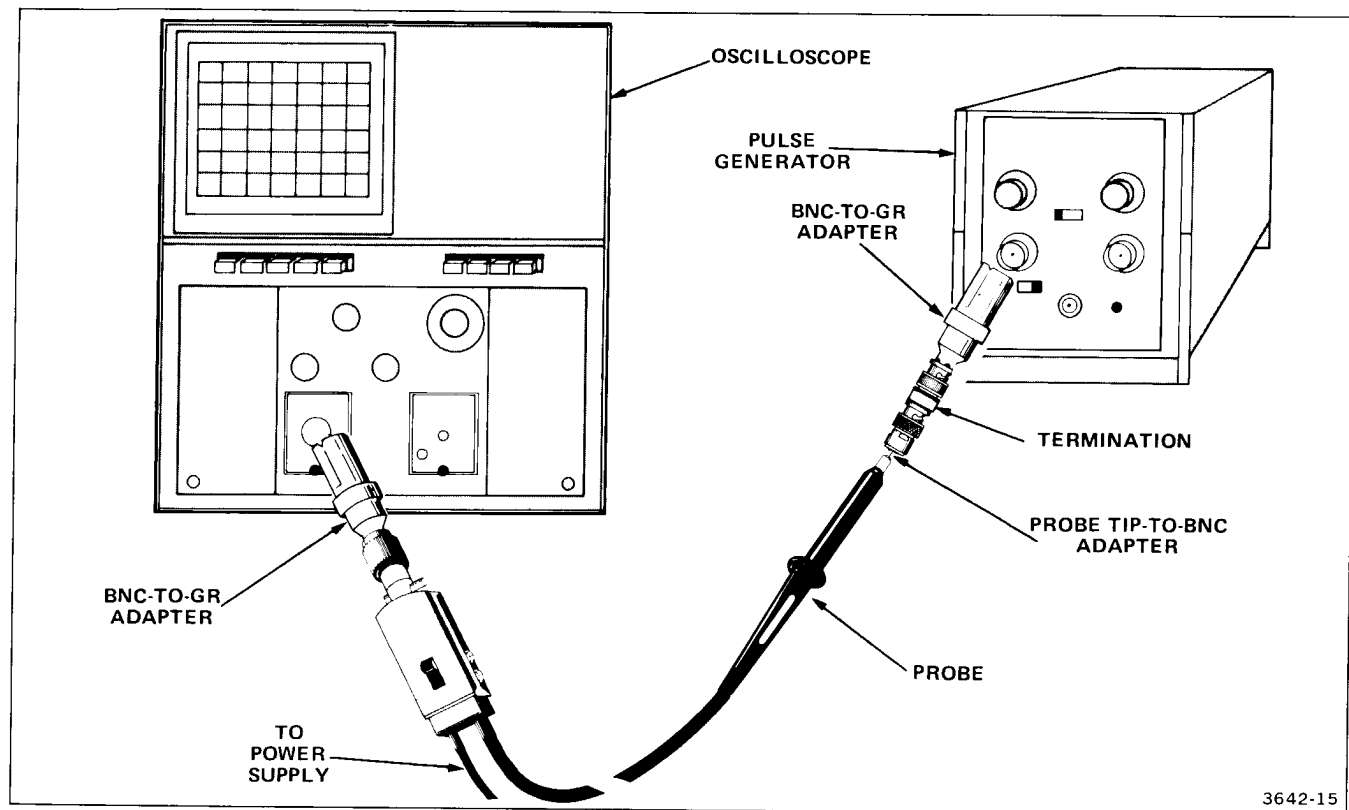

Figure 4-4. Test setup for measuring rise time.
g. Connect the test setup in accordance with Figure 4-4.